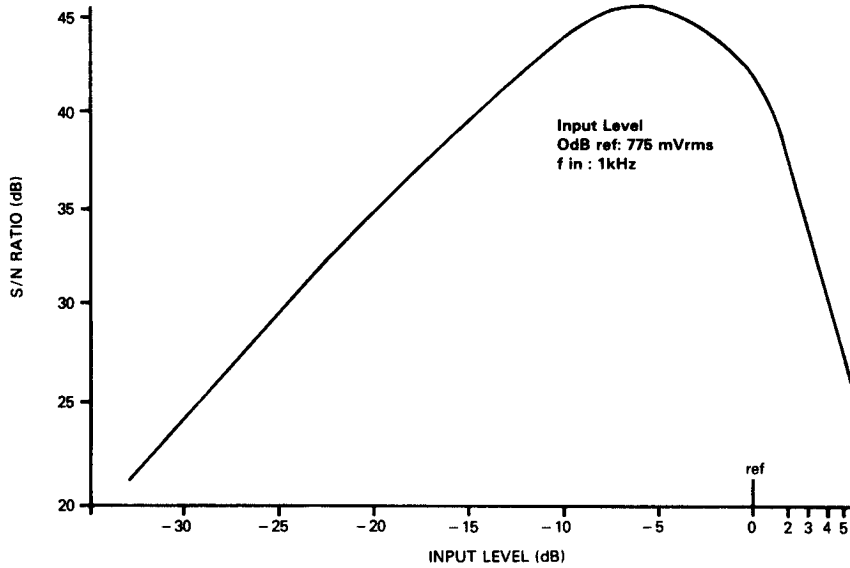

Fig. 3 Typical S/N Ratio Vs Input Level
8. See figure 3 with respect to signal to noise ratio.